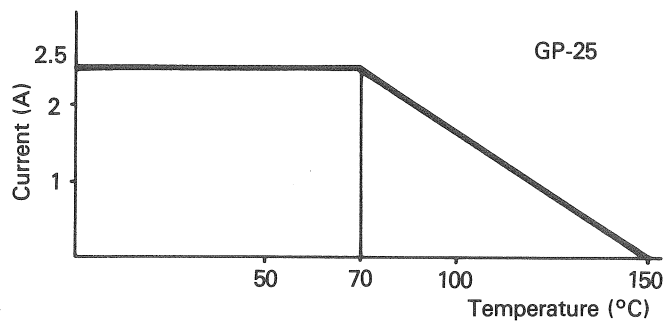

Fig. 12 Allowable output current and temperature
- As shown in Fig. 12, the dc output current is restricted by the ambient temperature, and when the temperature rises, the allowable output current drops.